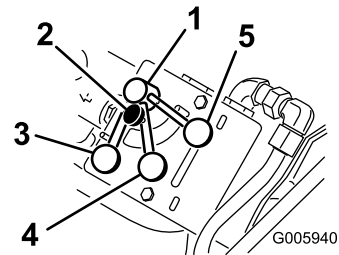

Figure 8
The traction unit hydraulics (i.e., the traction drive, loader arms, and attachment tilt) work on a separate hydraulic circuit from the auxiliary hydraulics for powering attachments; however, the 2 systems share the same hydraulic pumps. Using the flow-divider control (Figure 8), you can vary the speed of the traction unit hydraulics by diverting hydraulic flow to the auxiliary-hydraulics circuit. Therefore, the more hydraulic flow you divert to the auxiliary hydraulics, the slower the traction unit hydraulics move.
**Note:** The flow-divider control can be fixed in place by turning the knob on the control clockwise until it contacts the dial (Figure 8).